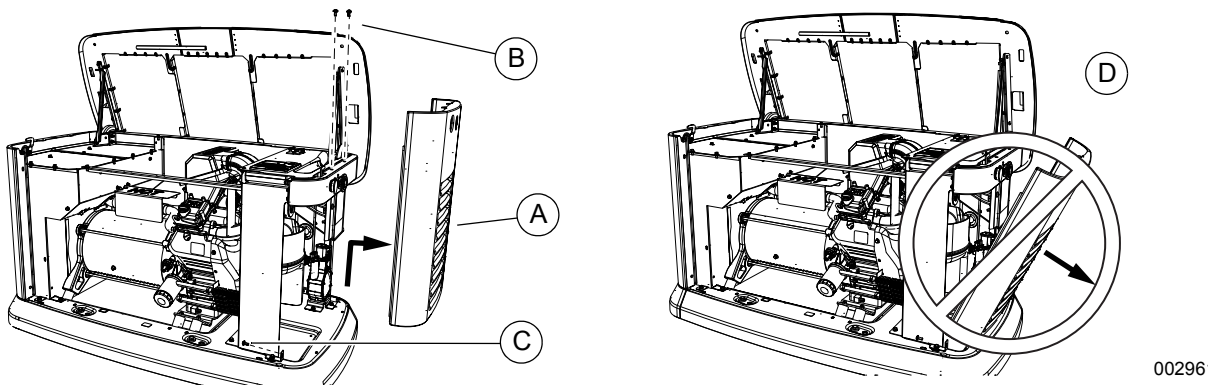

Figure 3-4. Intake Side Panel Removal
See Figure 3-4. The intake side panel (A) must be removed to access the battery compartment, fuel regulator, and sediment trap.
2. Use an Allen wrench to remove two mounting screws (B) and the L-bracket screw (C).